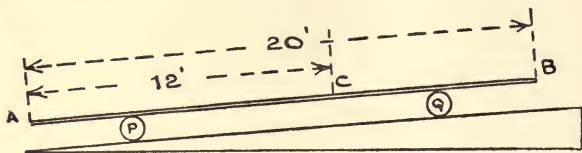

Fig. 2.
4. A plank  $AB$  (see Fig. 2), 20 feet long and weight 50 lbs., rests upon two solid cylindrical rollers  $P$  and  $Q$ , each one foot in diameter and each weighing 40 lbs. Initially the plank rests with  $P$  under  $A$  and  $Q$  under  $C$ , and the system is placed on an